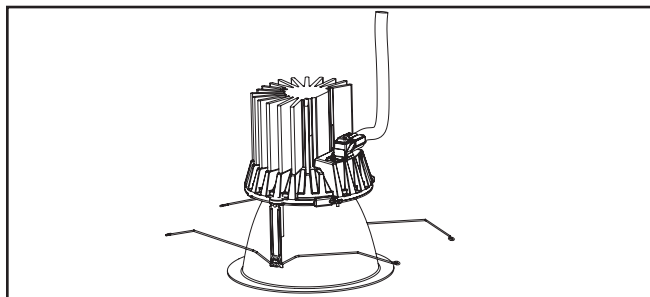

Figure 8
9. Ensure the connector is properly engaged. (Figure 8.).